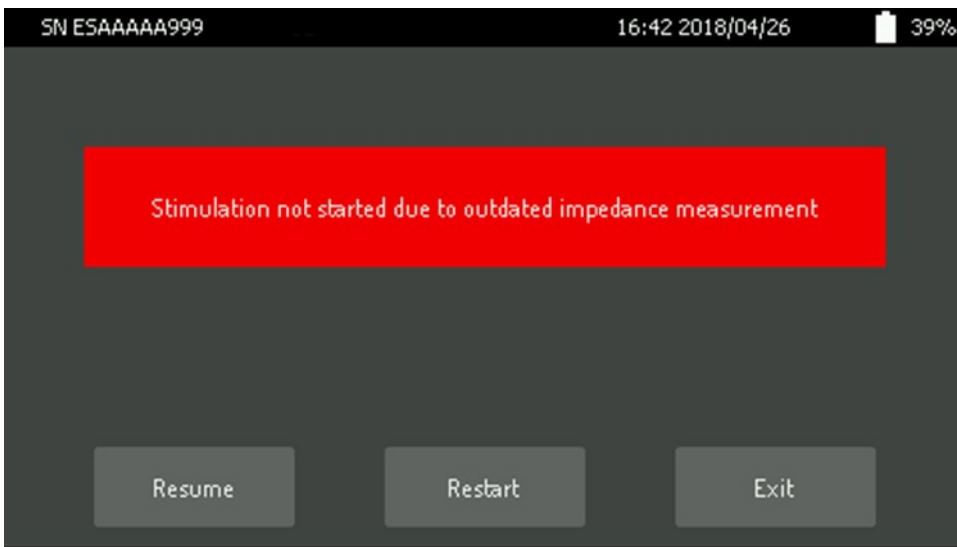

Figure 70. Stimulation not started due to outdated impedance measurement.
- impedance measurement is outdated (Figure 70),